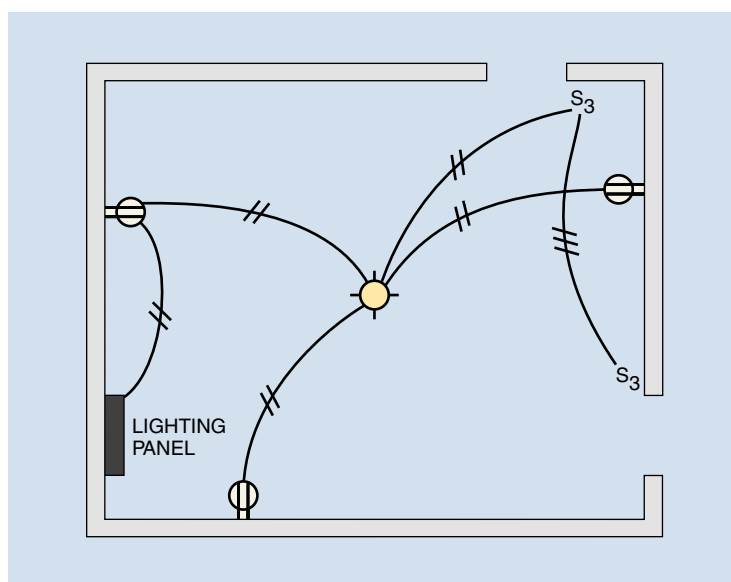

Figure 8-5 Typical cable layout.
1. Refer to plans and make a cable layout of all lighting and receptacle outlets, as in Figure 8-5.